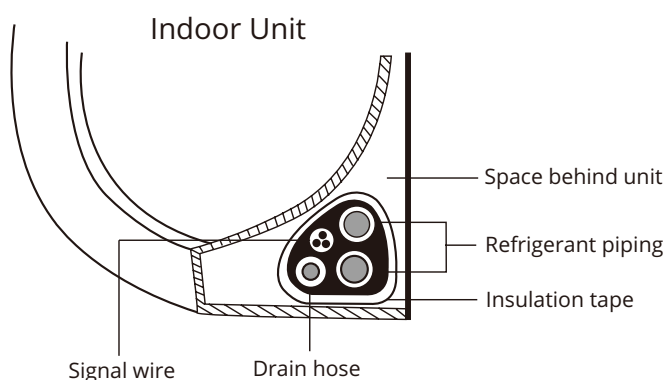

Fig 3.10
1. Bundle the drain hose, refrigerant pipes, and signal cable according to **Fig. 3.10**.
3. Using insulation tape, wrap the signal wire, refrigerant pipes, and drain hose tightly together. Double-check that all items are bundled in accordance with **Fig. 3.10**.